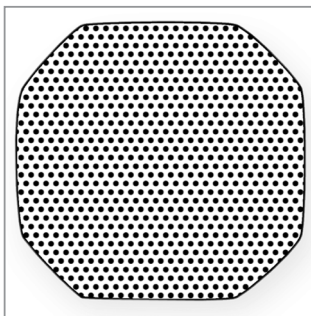

Figure 8
- Remove your Biomet® OrthoPak® Non-invasive Bone Growth Stimulator System when you bathe, shower or swim. You should also either remove the electrodes or cover them with the additional adhesive cover patches provided, as shown in Figure 8 if you prefer to leave the electrodes attached to the skin during bathing.